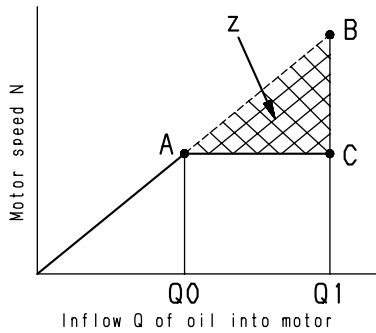

Fig. 1
- As shown in Fig. 1, motor speed N rises in proportion to inflow of oil Q . When the inflow of oil is $Q1$, the motor speed is B rpm.
- The upstream pressure of the throttle is applied to X side of flow control valve spool (15) and the downstream pressure of the throttle is applied to Y side. The differential pressure between before and after throttle E made by the inflow is applied to flow control valve spring (14).
- In Fig. 1, if the inflow exceeds $Q0$, the differential pressure between before and after flow control valve spool (15) increases above the installed load of flow control valve spring (14) and the path from P to T in flow control valve spool (15) opens. As a result, the excess oil in part Z is discharged through the flow control valve and the motor speed is kept constant from A to C .